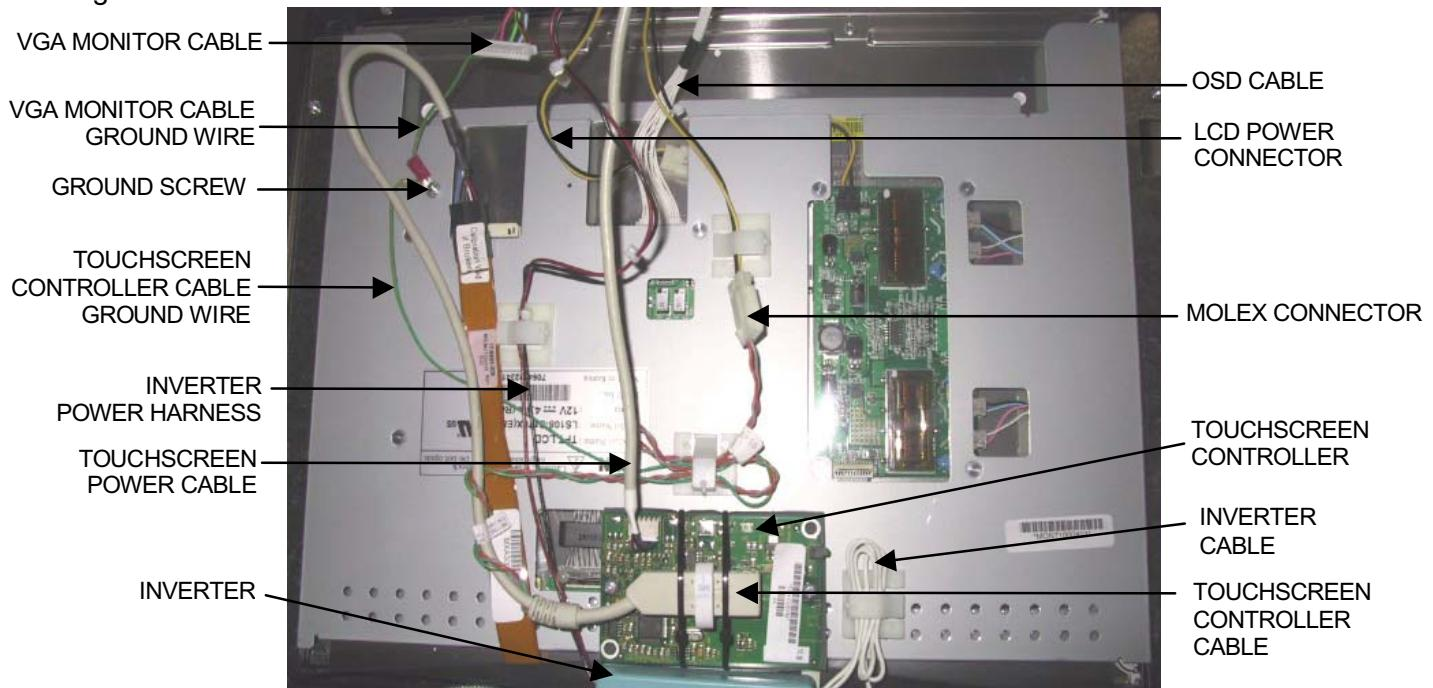
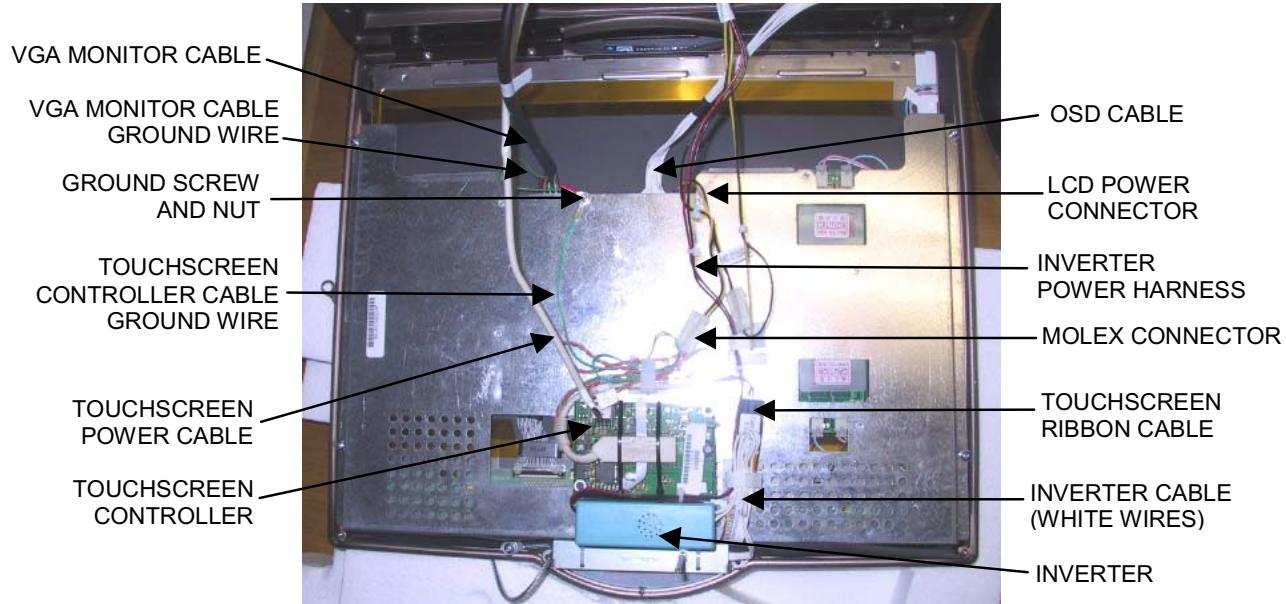

FIGURE 5 - REAR VIEW OF 17" MONITOR
FIGURE 6 - REAR VIEW OF 19" MONITOR
7. Disconnect the VGA connector from the monitor. Remove the screw securing the VGA and touchscreen controller ground wires to the monitor (17"), or the nut securing the VGA and touchscreen controller ground wires to the ground screw on the back of the monitor (19" & Widescreen). *Note: On the Aurora Widescreen this nut may secure only the VGA ground wire.* Disconnect the 14-pin OSD cable (white wires) and the LCD power connector (yellow & black wires) from the monitor. Refer to Figure 5 for 17" games, and Figure 6 for 19" and Widescreen games.
8. Disconnect the touchscreen power cable from the touchscreen controller, then disconnect the Molex connector, identified by the orange and gray wires (this does not exist on Aurora Widescreen systems). Refer to Figure 5 for 17" games, Figure 6 for 19" and Widescreen games.
9. Release harnesses from clamps; this may include the inverter cable, the inverter power harness, the Molex harness, the touchscreen controller cable, the touchscreen controller cable ground wire, the harness connecting the Molex connector to the power supply, and/or the touchscreen ribbon cable. Refer to Figure 5 for 17" games, and Figure 6 for 19" and Widescreen games.
10. For 19" and Widescreen games: Remove the inverter from the Velcro securing it to the LCD bracket (19") or touchscreen controller mounting plate (Widescreen) and carefully place it out of the way of the monitor assembly. See Figure 6.
- If you are replacing the touchscreen: Remove the touchscreen controller cable from the touchscreen controller (see Figure 5).